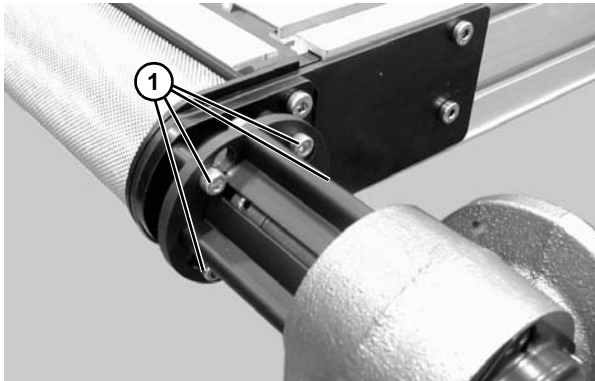

**Figure 63**
- e. Remove four (4) M5 mounting screws (**Figure 63, item 1**) and two (2) M8 mounting screws (**Figure 63, item 2**).
- f. Remove gearmotor and mounting plate assembly (**Figure 63, item 3**).